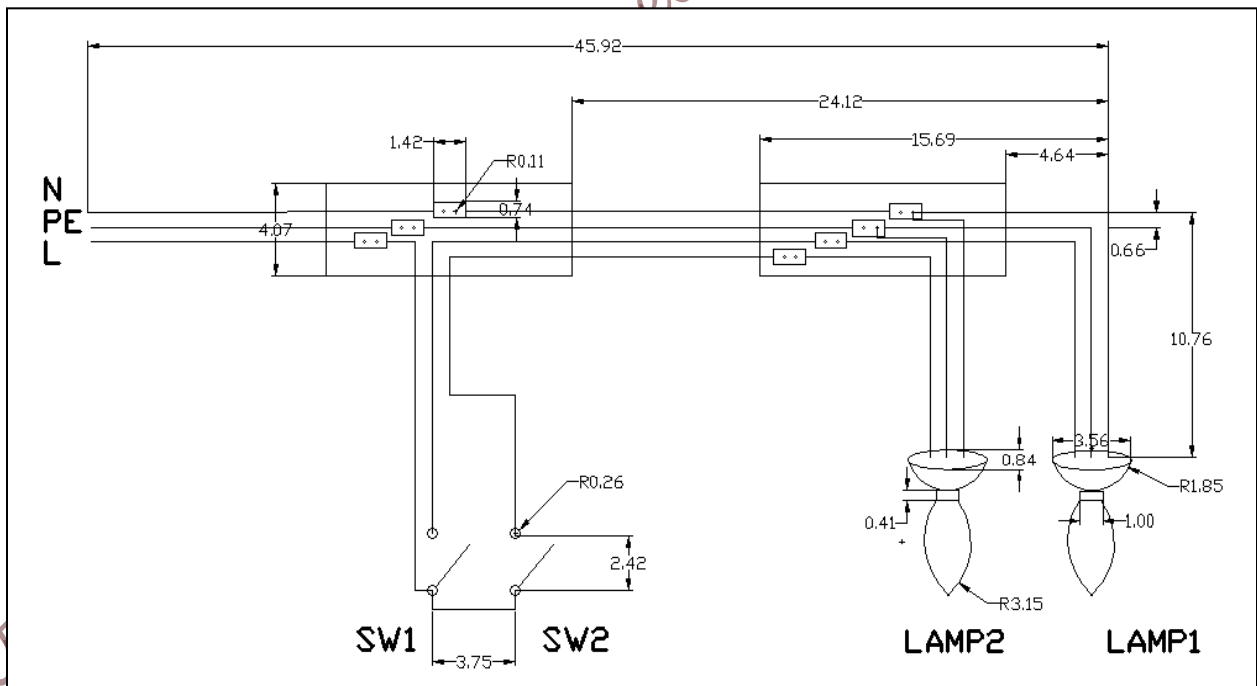

Figure 2.4 Assembled (Wiring)-Diagram
6. In the same sheet draw the circuit of Figure 2.4 which is the Assembled-Diagram of the circuit (wiring diagram).